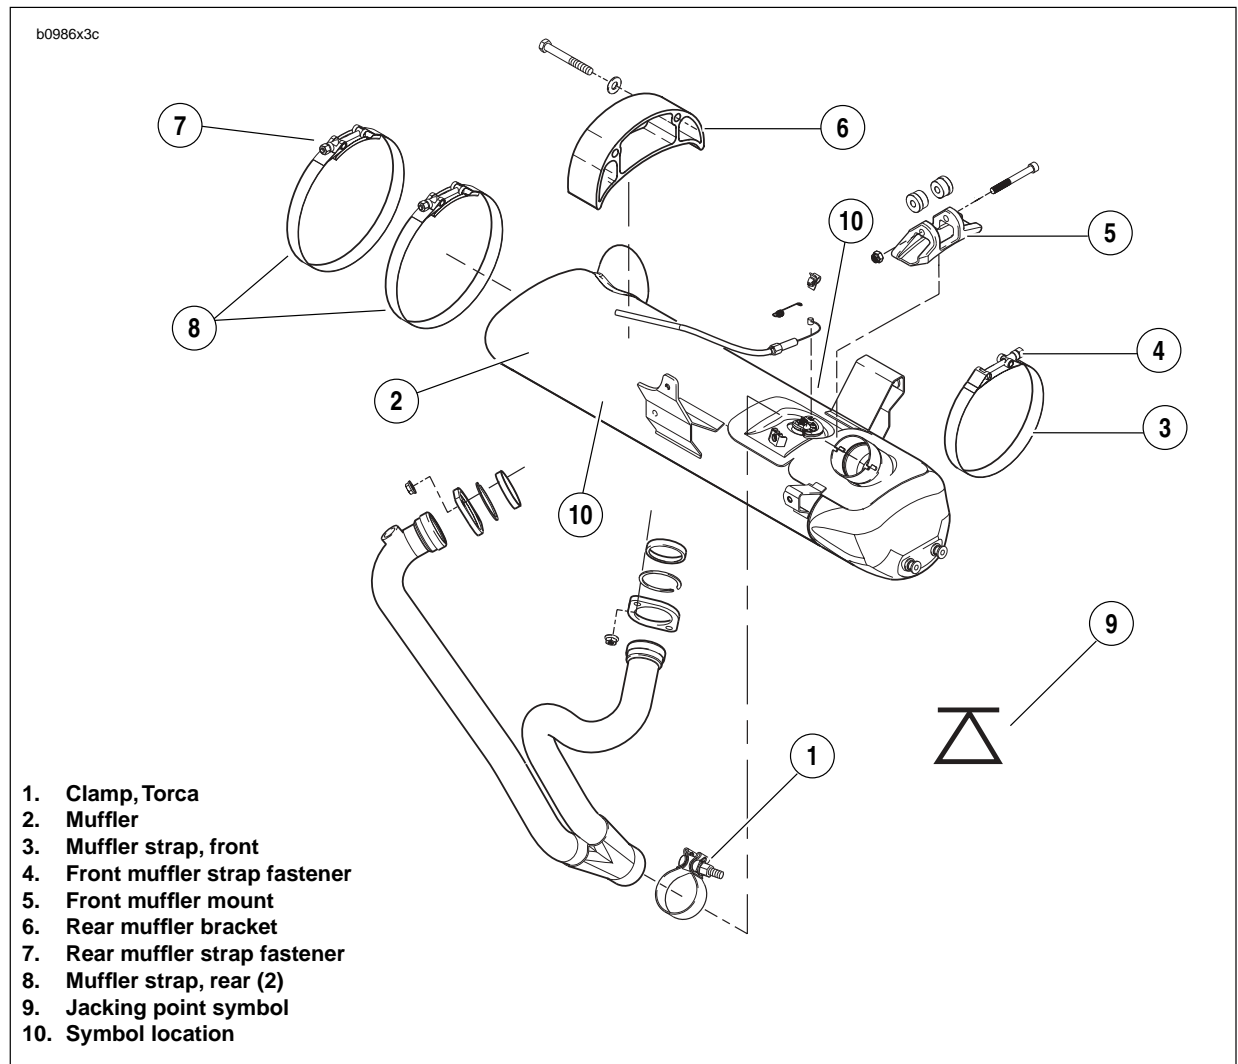

Figure 2-114. Muffler and Mounting System
4. See Figure 2-114. Loosen front muffler mount fastener (5) but do not remove.
2. See Figure 2-114. Remove front muffler mount fastener (5).
3. Remove strap (3) from front muffler mount (5).
4. See Figure 2-114. Remove rear muffler bracket fasteners.
- See Figure 2-114. Slide rear muffler bracket over oil feed line.
- See Figure 2-114. Install front muffler mount bushings.
- Install **new** strap on front muffler mount (5).
3. See Figure 2-114. Loosely install **new** front and rear muffler straps (2, 4).